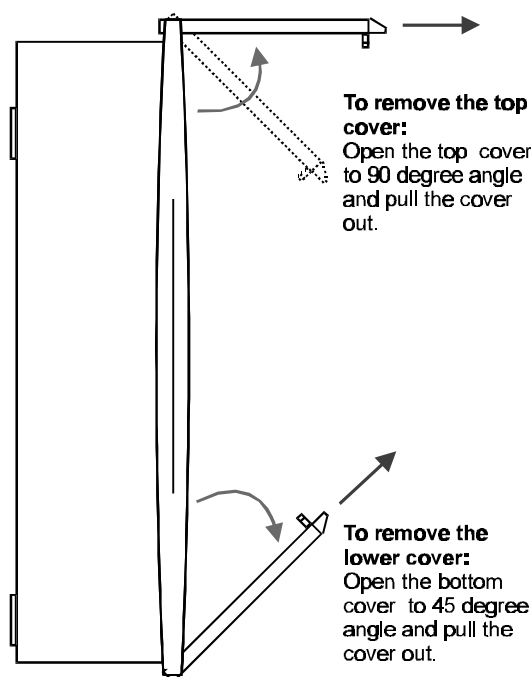

Figure 10 How to remove the outer covers
- Remove the top and bottom inner plates, see Figure 10.